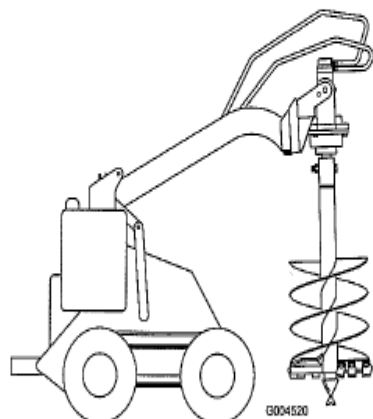

Figure 9
- Raise the auger free of the ground (Figure 9).
- When the auger is vertical, tilt the attachment plate rearward, until the drive head contacts the attachment plate to stabilize the auger and keep it from swinging freely (Figure 9).